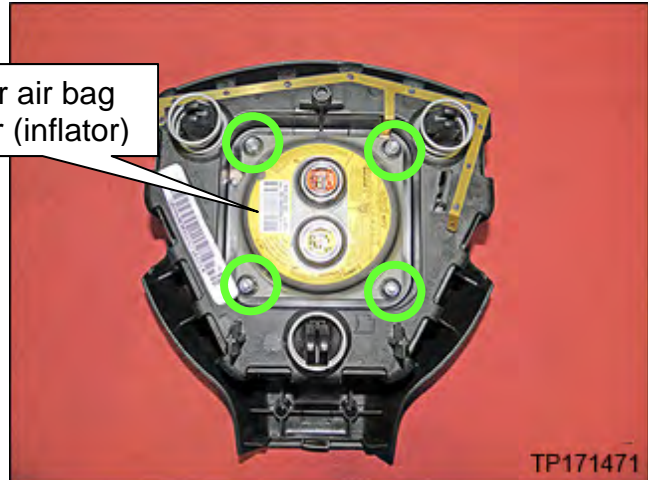

Figure 20
19. Remove the four (4) driver air bag inflator (inflator) nuts shown in Figure 20.